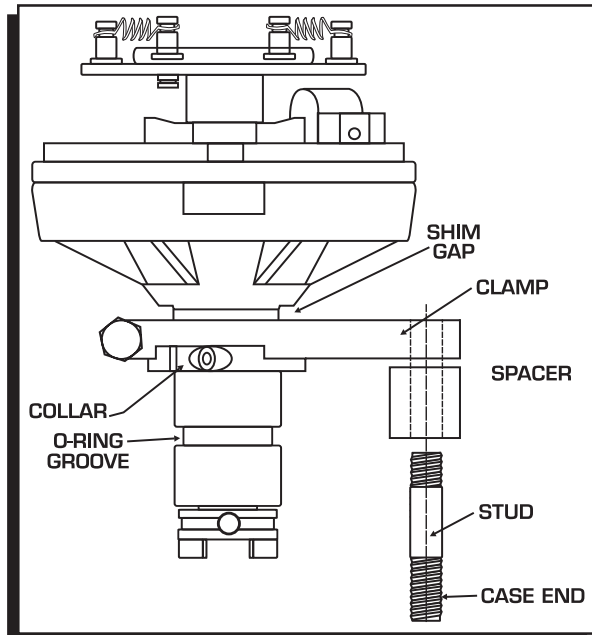

Figure 8 Measuring the Required Distributor Shims.
5. Install the collar and clamp to the distributor and snug the bolts (Figure 8). Install the distributor into the engine making sure that it bottoms out on the driveshaft.
7. With the remaining shims, make a stack that fits the gap between the clamp and the distributor housing (Figure 8). It is recommended to use a shim stack that is slightly thicker than the gap up to 0.005" however, it may be 0.002" thinner.